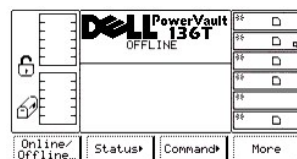

Figure 4. Completed Verification Dialog
- 1 If the button beneath the **OK** softkey is pressed, Figure 4 is displayed. The library goes offline.